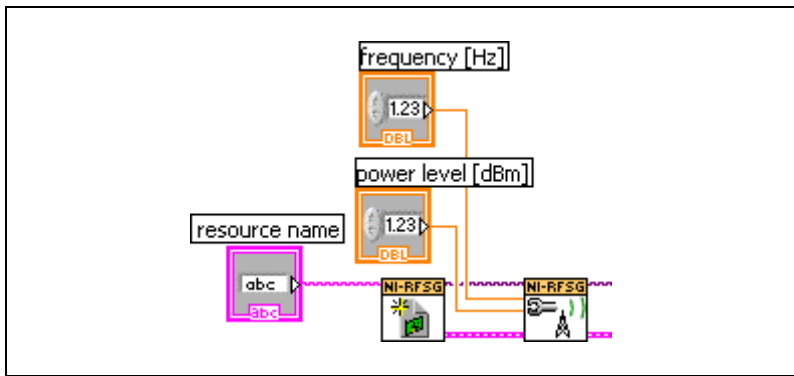

Figure 15. Frequency and Power Level Controls on the Block Diagram
10. Right-click each terminal and select **Create»Control** from the shortcut menu to create frequency and power controls as shown in Figure 15.